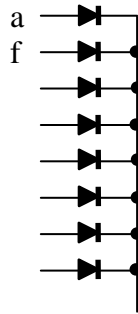

Figure 2: Interior wiring diagram for a Common Cathode (CC) display
- In addition, these displays come in two types: **Common Cathode** and **Common Anode**, depending on their interior wiring. See figures 2 and 3.